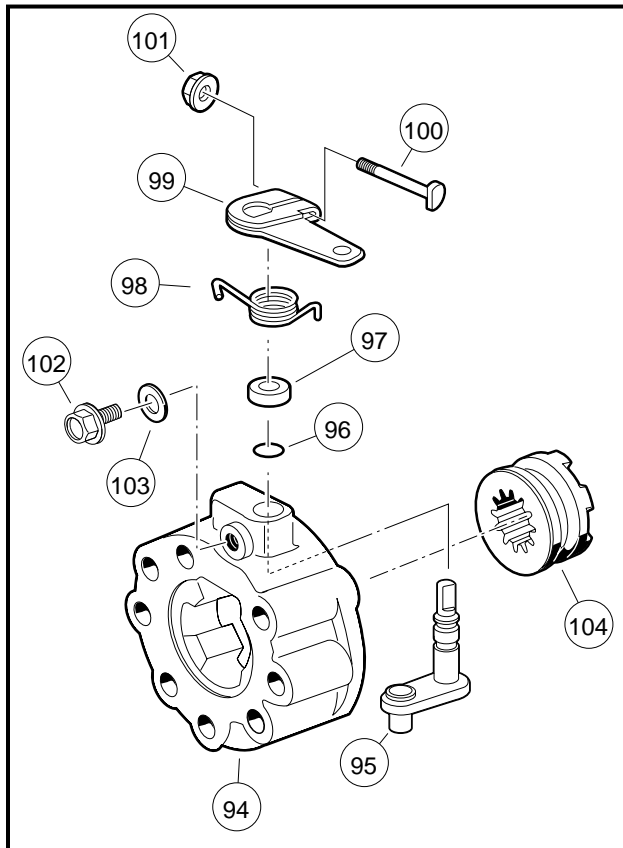

Figure 16-47 Differential Lock Housing Disassembly
1. Rotate the arm (99) and remove the differential lock cog (104) (**Figure 16-47, Page 16-19**).
2. Loosen but do not remove the differential lock arm retaining nut (101) and remove the arm (99) and spring (98) from the differential lock shaft (95) (**Figure 16-47, Page 16-19**).
3. Remove the spacer (97) from the differential lock shaft (95) (**Figure 16-47, Page 16-19**).
4. Remove the shaft retaining screw (102) and washer (103) from the differential lock housing (**Figure 16-47, Page 16-19**).
5. Press the shaft (95) toward the center of the differential lock housing and remove the shaft (95) from the housing (94) (**Figure 16-47, Page 16-19**).
6. Inspect the O-ring (96) on the differential lock shaft (**Figure 16-47, Page 16-19**).